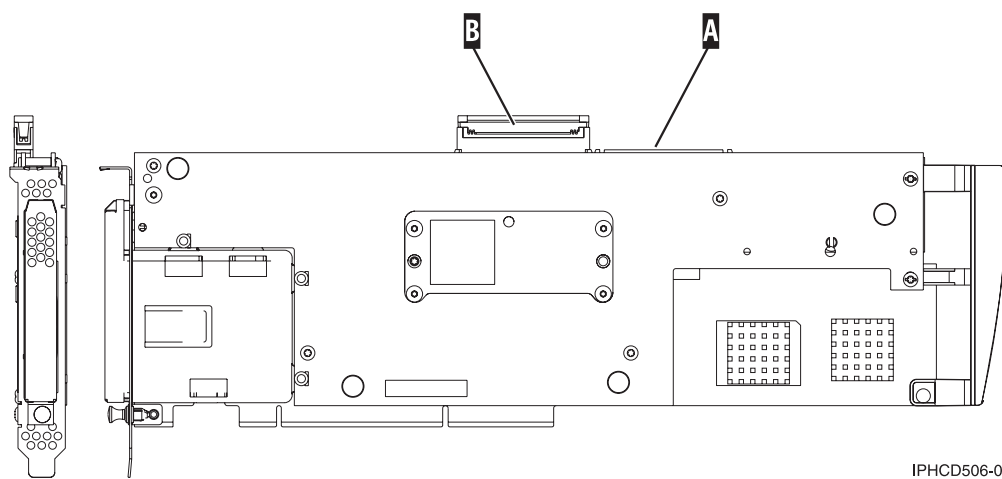

Figure 24. 5708, auxiliary-write cache IOA
2. Attach the cable to SCSI port **A** on the auxiliary-write cache adapter. See Figure 24 on page 101.